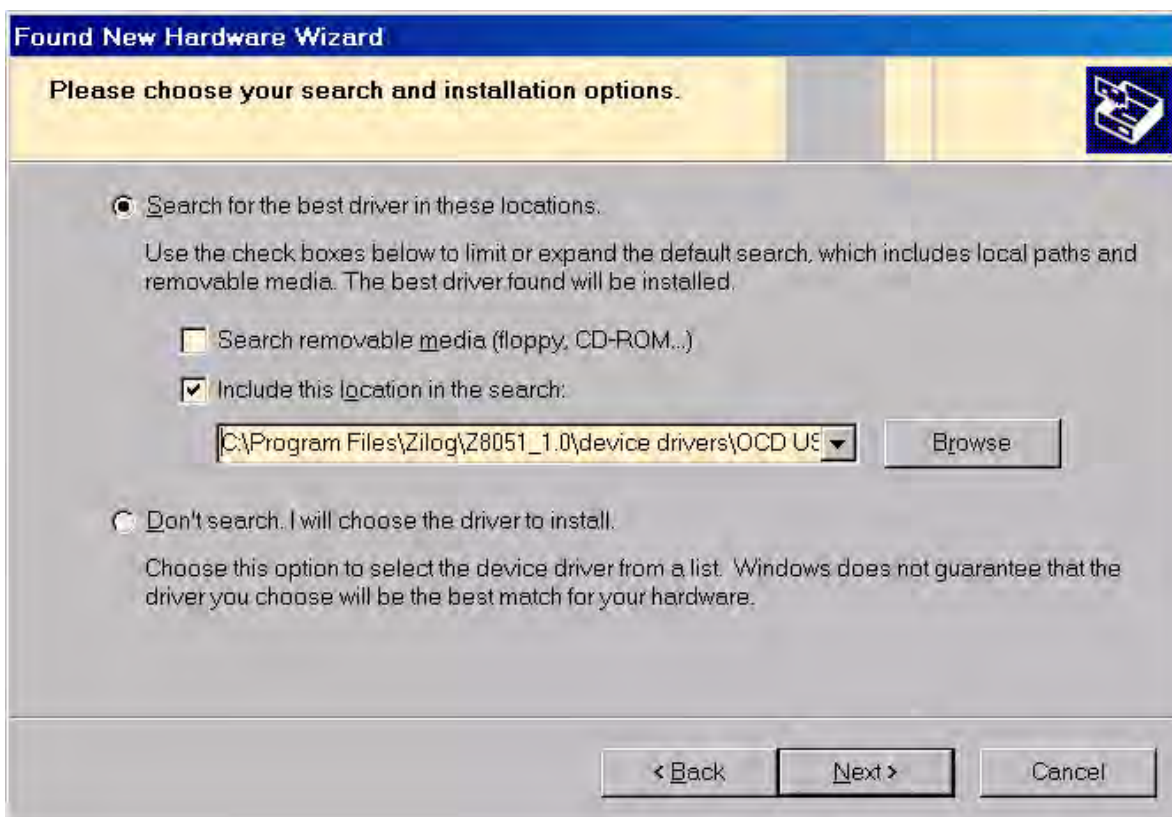

Figure 28. The Found New Hardware Wizard's Browse Screen
3. The next dialog box, shown in Figure 28, prompts you to enter a path or navigate to the directory in which the .inf file was installed. Depending on the type of computer you use (32-bit or 64-bit), use the **Browse** button to navigate to one of the following paths and click the **Next** button, leaving all other selections at their default settings.